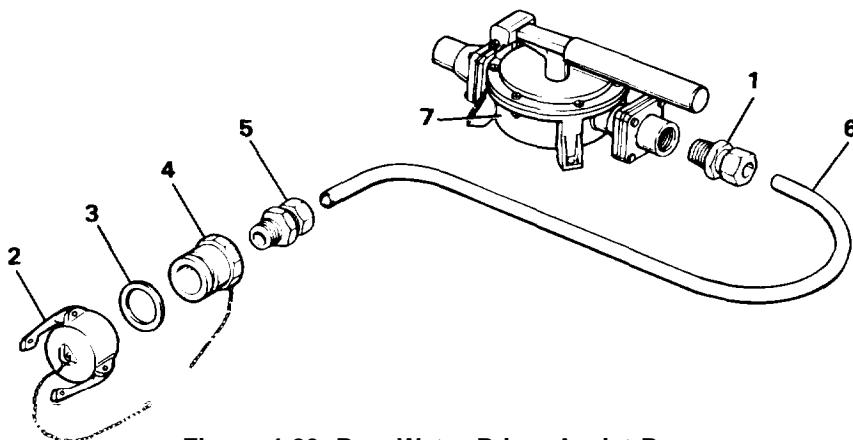

Figure 4-20. Raw Water Prime Assist Pump
- a. Disconnect adapter (1, Figure 4-20) and assembled tubing assembly (1 thru 6) from pump (7).
- b. Disconnect dust cap (2) with gasket (3) from connector (4).
- c. Unscrew adapter (5) from connector (4).
- d. Remove hose (6) from adapters (5 and 1) by loosening the tubing nuts.
- e. Remove gasket (3) from dust cap (2).
- b. Replace gasket (3) if damaged.
- c. Replace tubing (6) if cut or damaged. Fittings (1 and 5) will need to be replaced if tubing (6) is replaced.
- d. Repair dust cap (2) and connector (4), if required (para. 4-11). Replace if damaged.
- e. Replace pump (7) if damaged or not working.